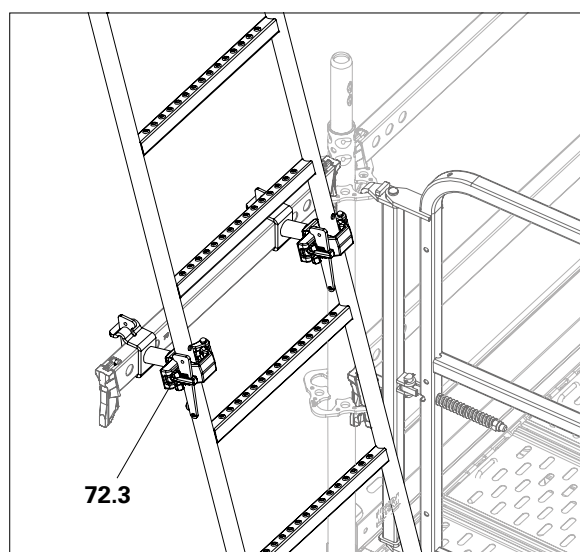

Fig. A9.02b
2. Insert the ladder and close the half-coupling. Secure the wedge. (Fig. A9.02b)